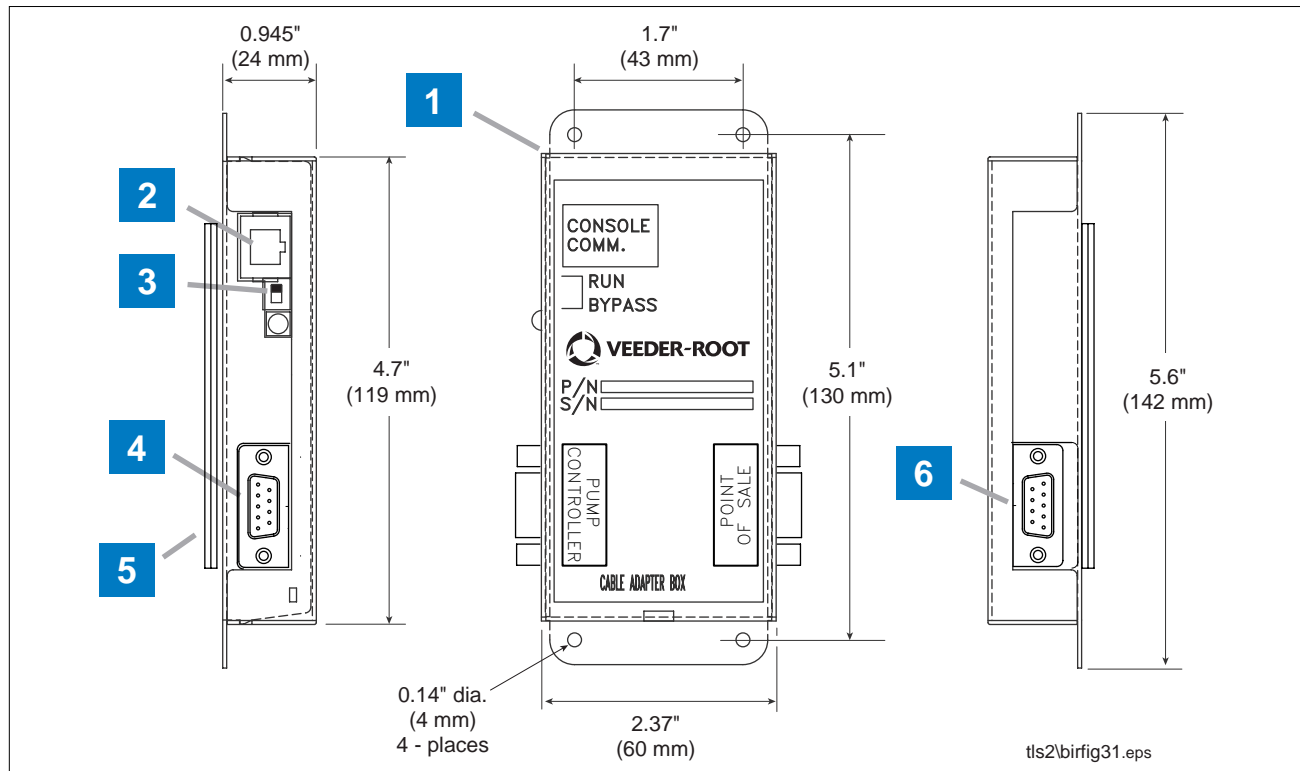

Figure 15. CAB Dimensions
1. Mount the CAB as described in Figure 15 on page 21.